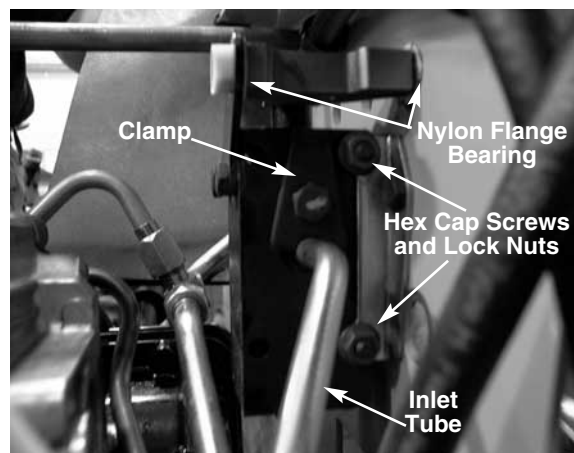

FIGURE 3.
7. Remove the side valve clamp that holds the inlet tube to the valve body using a 7/16 socket. See figure 3.
NOTE: Record the correct positions of the nylon flange bearings on the squared lift link. See figure 3.